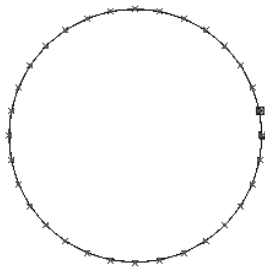

Figure 11-93 Circle after scaling
5. Enter **5** in the promptline; the circle is scaled five times as compared to its original size, as shown in Figure 11-93.